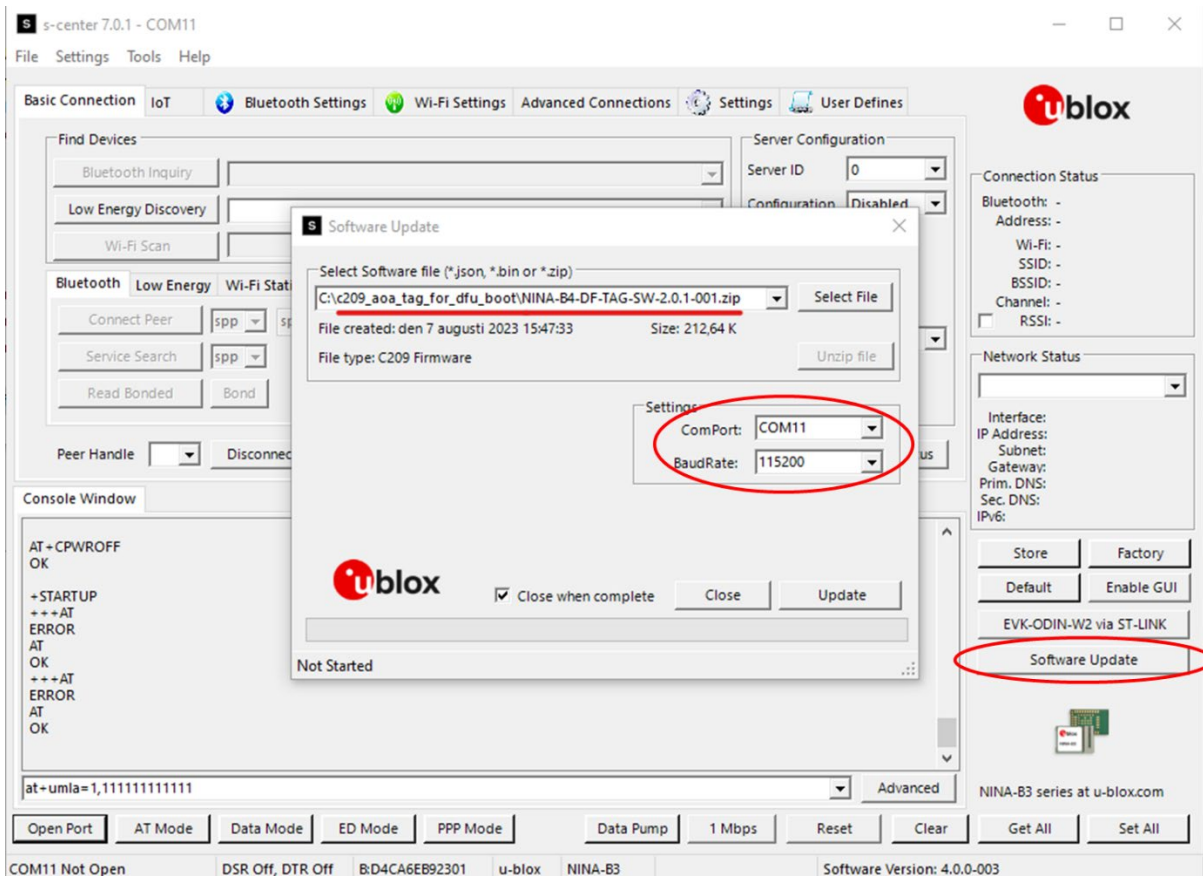

Figure 13: Updating the SW on the C209 board via s-center
3. In the “Software Update” dialogue, select a zip file from one of the folders ending in “for_dfu_boot”, as shown in Figure 13. Make sure the flashing speed is set to 115200.